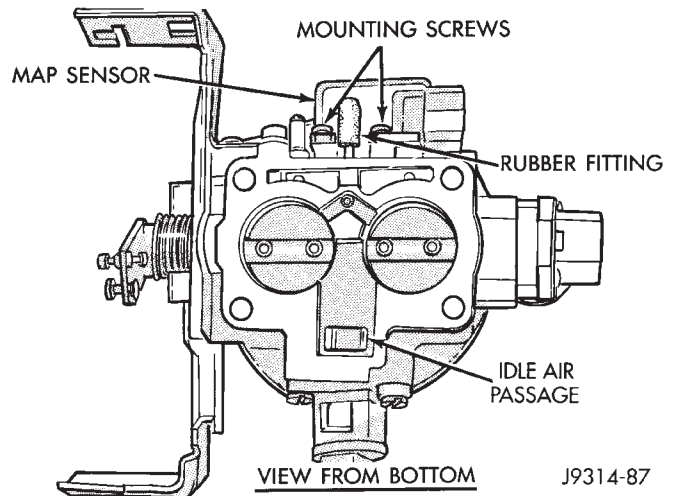

Fig. 29 MAP Sensor Rubber Fitting—5.2L Engine
An L-shaped rubber fitting is used to connect the MAP sensor to throttle body (Fig. 29).
(2) Remove throttle body. Refer to Throttle Body removal in the Group 14, Fuel System section of this manual.
(3) Remove two MAP sensor mounting screws (Fig. 29).
(4) While removing MAP sensor, slide the L-shaped rubber vacuum fitting (Fig. 29) from the throttle body.
(5) Remove rubber fitting from MAP sensor.